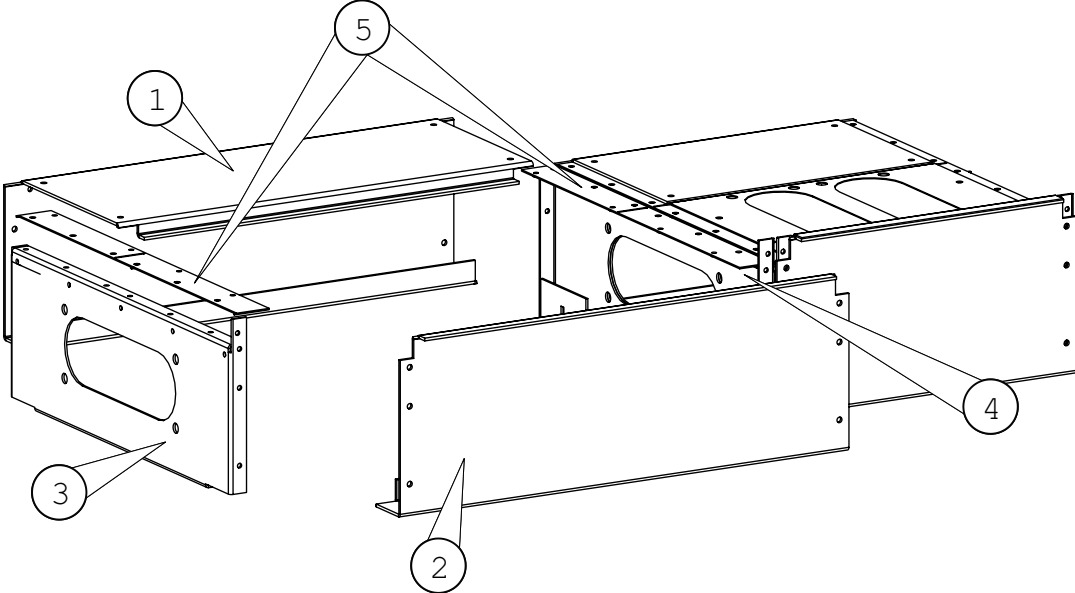

Fig. 2.3. Assembling the base of a so-called light cell centre.
The assembly of the base is started the same way as with the deeper version. In this case, the intermediate beads (5) are inserted under the back panel (1). The other parts of the base in Fig. 2.3 are the front plate (2), the end plate (3), and the divider (4).